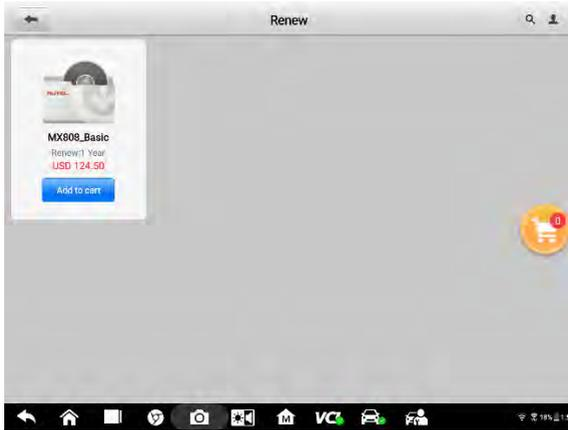

Figure 19-2 Renew Software
5. **Blue Button** - provides conditional access to new software or value-added services for specific devices (For example, when you tap **Renew**, you can renew the software by adding it to cart for settlement, as Figure 19-2 shows.)